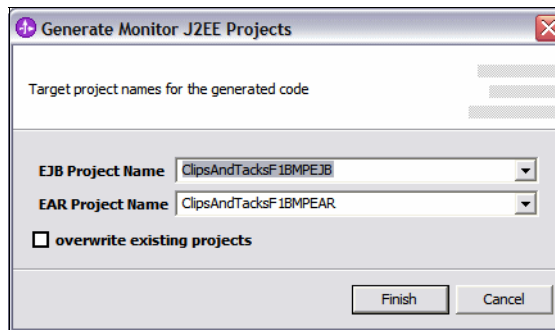

Figure 12-72 Name the EAR file
- ▶ Accept the names for the EJB and EAR projects (Figure 12-72).